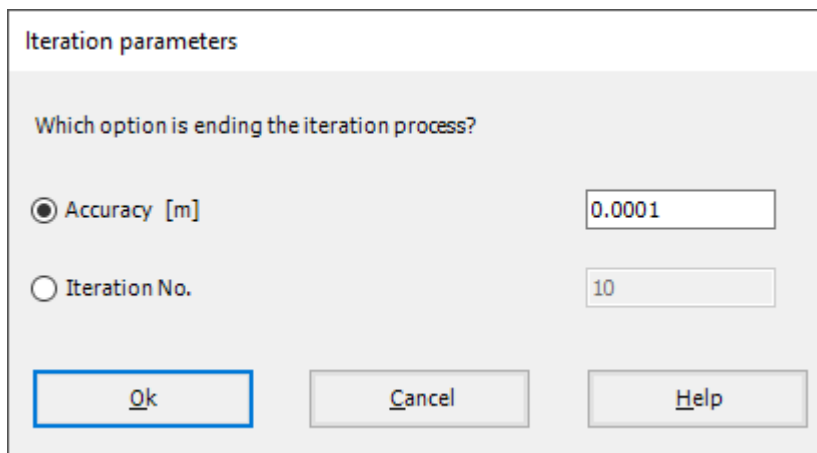

Figure 9.22 "Iteration parameters" option box
- Choose "Computation of all" command from "Solver" Tab Window. The following "Iteration parameters" option box in Figure 9.22 appears